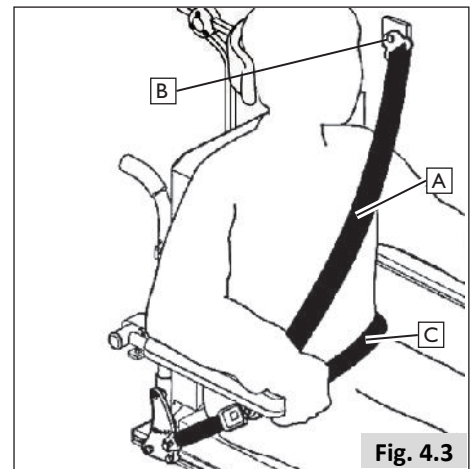

Fig. 4.3
14. Both pelvic and upper torso restraint belts must be used to restrain the occupant to reduce the possibility of head and chest impacts with the vehicle components and serious risk of injury to the user and other vehicle occupants (Fig. 4.3).
15. The upper torso restraint belt should be mounted to the vehicle (B) pillar, failure to do so will increase the risk of serious abdominal injuries to the user (Fig. 4.3).
17. The pelvic restraint belt (C) must be worn low across the front of the pelvis so that the angle of the pelvic belt is within the preferred zone of 30 to 75 degrees to the horizontal (Fig. 4.3).
19. The upper torso restraint belt (A) must fit over the shoulder and across the chest (Fig. 4.3).